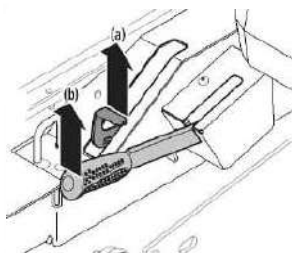

Figure 2-2
- Engage the transmission bypass valves by pulling the bypass lever (a) outward then upward and all the way back. See Figure 2-2.
- To release the bypass lever (a), push the lever forward. See Figure 2-2.
- To engage the parking brake, pull back completely on the parking brake lever (b). See Figure 2-2.